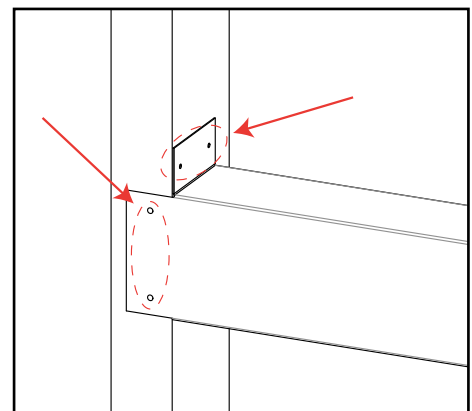

Figure 19: Steel Stud Installation
- Attach the steel stud to the framing studs using the holes shown in Figure 19.